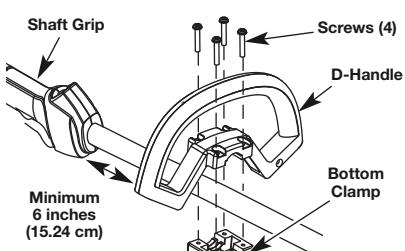

Fig. 5
- Place D-handle over the shaft housing and onto the bottom clamp (Fig. 5). Place it a minimum of 6 inches (15.24 cm) from the end of the shaft grip.